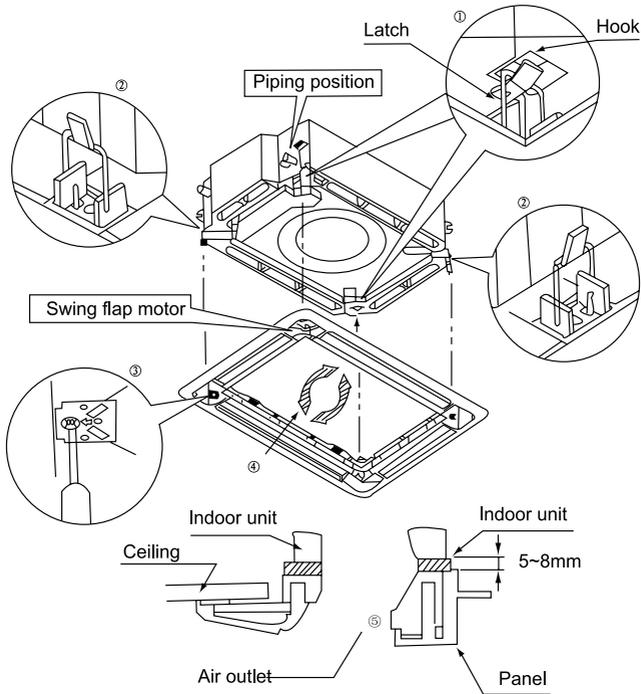

Fig.37
- (1). Place the panel at the unit, and latch the hooks beside and opposite the swing flap motor.
- (2). Latch other two hooks.
- (3). Tighten four hexagonal screws under the latches about 15mm.
- (4). Adjust the panel along the direction indicated by the arrow as shown in Fig.37.
- (5). Tighten the screws until the thickness of the sealing material between the panel and the indoor unit reduces to 5-8cm.